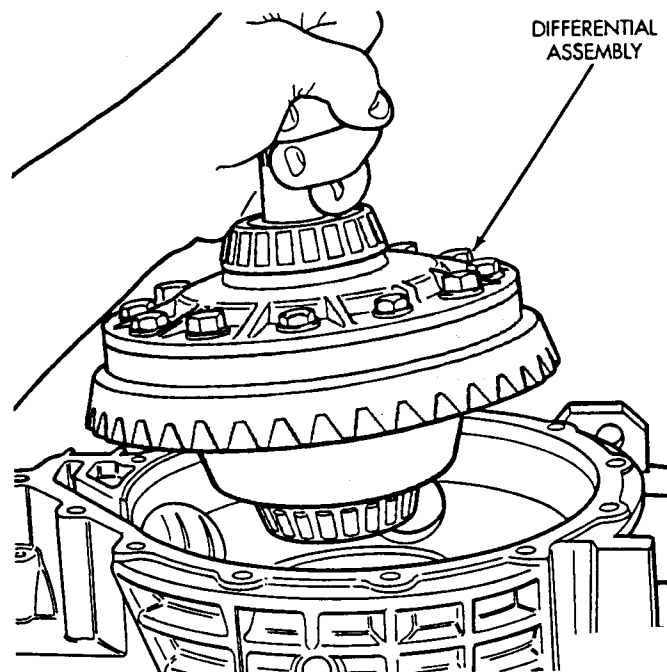

Fig. 17 Differential Assembly Installation
(20) Install differential assembly into the transaxle case (Fig. 17).